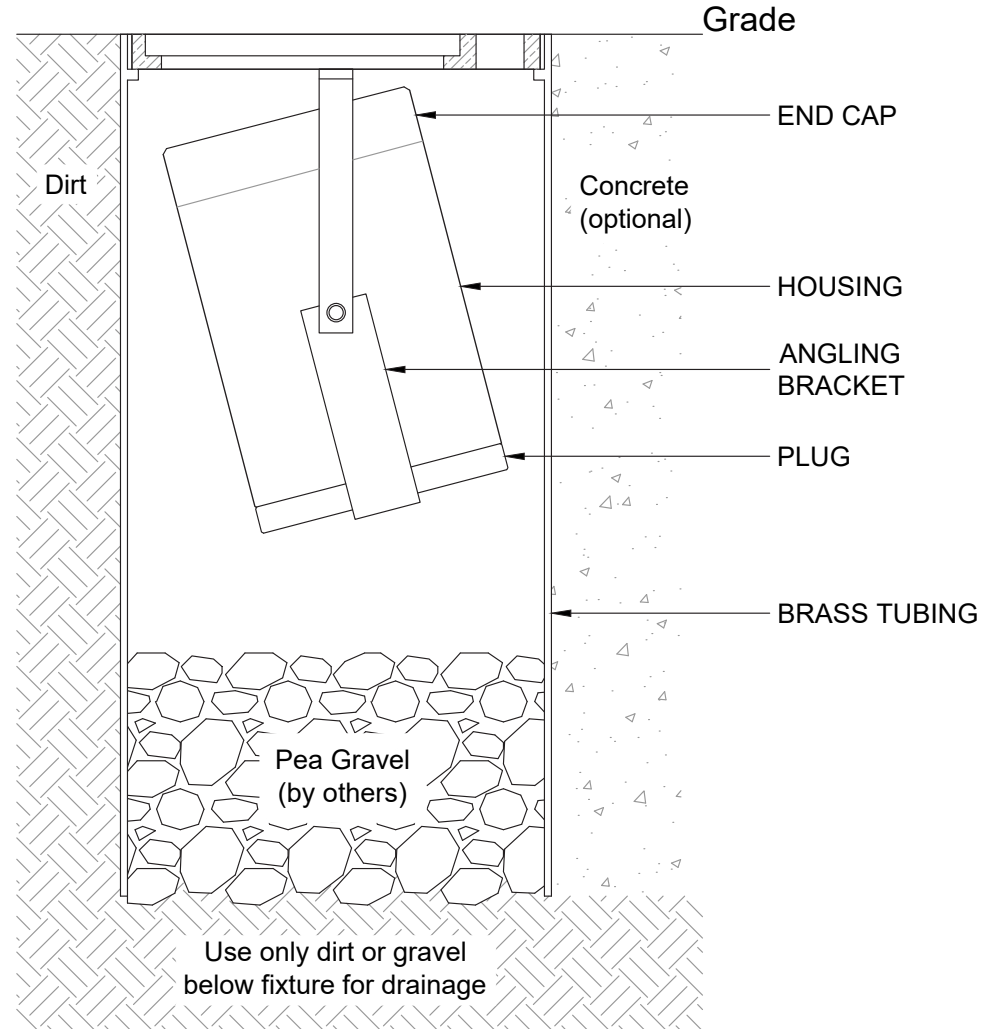

Figure 1
4. Place Tubing into hole with the top of the Tubing flush at grade (Figure 1).
5. Using a 3/32" hex wrench, loosen set screws on either side of the Angling Bracket. Adjust to desired angle and retighten screws (Figure 1).